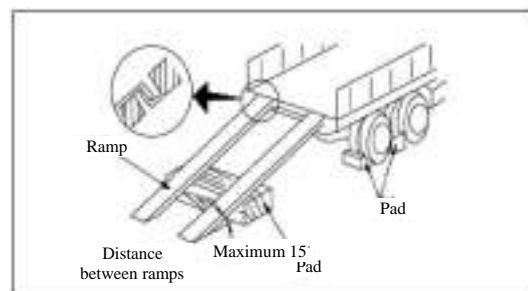

Figure 6-2 Precautions for loading (I)
b). Apply proper braking force to the trailer and put pads under the tire, so as to ensure that the trailer does not move. Then install the ramps between the trailer and the machine. Ensure that both ramps are in the same horizontal plane. The slope of the ramp should be no more than 15°. The distance between the ramps should be adjusted to match the track center (see Figure 6-2).